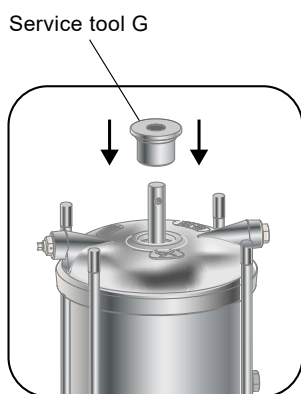

Fig. 5 Fitting service tool G in the pump head cover (2)
4. Lubricate and install a new o-ring (79a) in the separator (79).
5. Lubricate and install a new o-ring (109).
6. Install the separator (79) gently in the cover (2b) so that the grafalon bushes in the separator (79) are not damaged.
7. Lubricate and install a new o-ring (37) in the pump head cover (2).
8. Install the pump head cover (2) on the cover (2b). Use service tool G to centre the chamber stack in the pump head cover (2). See fig. 5.